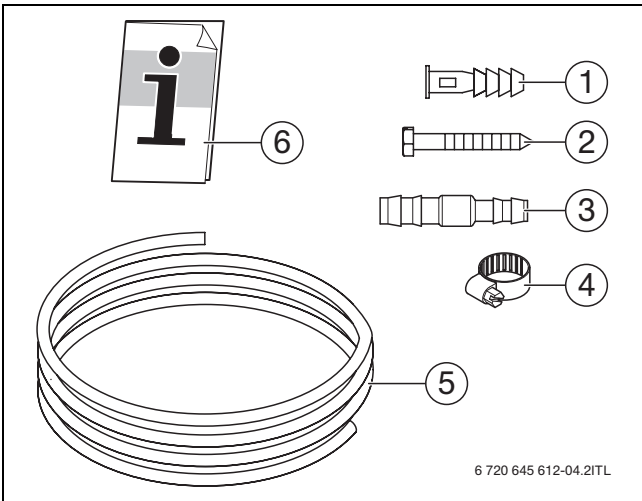

Fig. 1 Scope of supply
- Accessories supplied (→ Fig. 1)